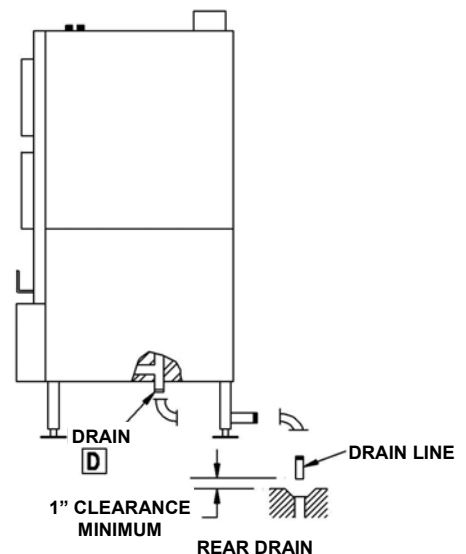

Figure 2-4 Typical Drain Connection for Both Models (Gemini 6-pan shown)
Furnishing and installing the drain line is the responsibility of the owner and/or installer. Figure 2-4 illustrates a drain layout recommended by Cleveland Range.
- The steamer is supplied with a 1-½ -inch pipe connection at the bottom of the unit (Figure 2-4).